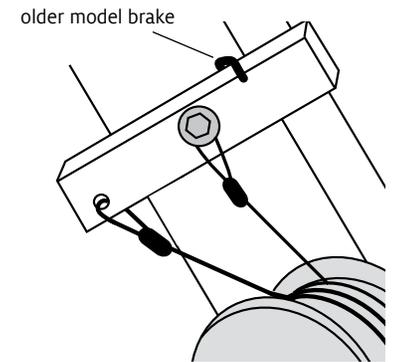

FIGURE 2
2. *For older looms:* If your loom brake resembles that shown in figure 2, continue with step #3.